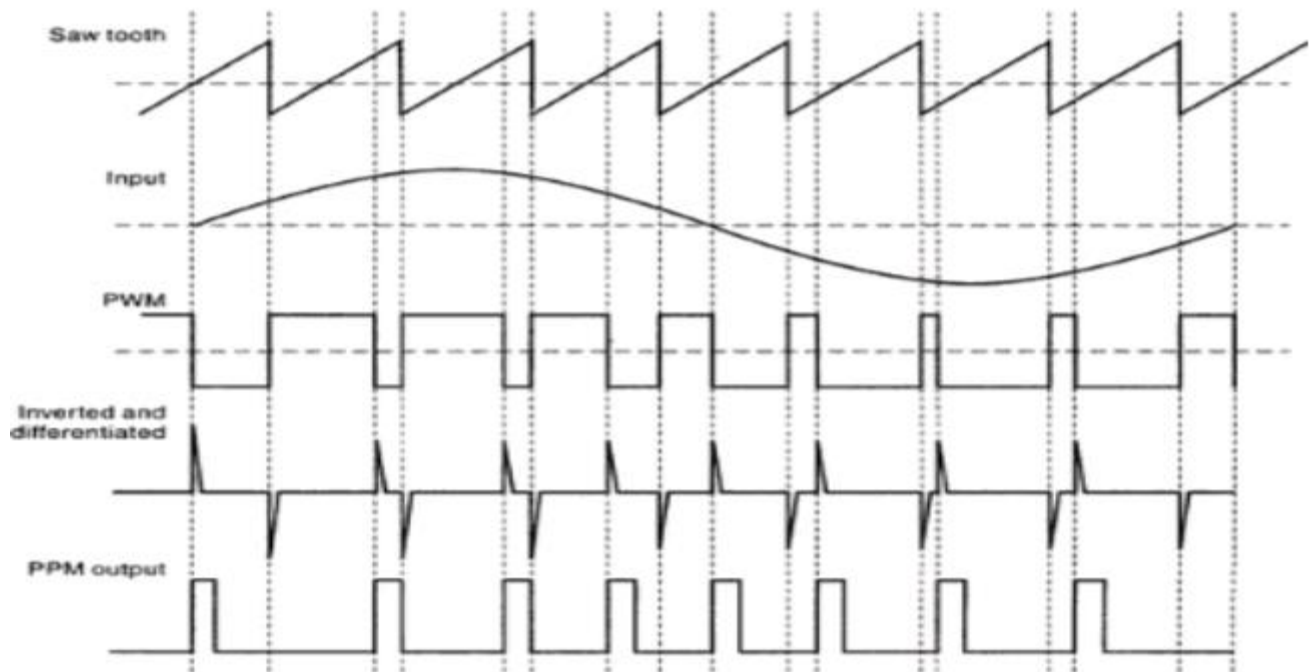

Fig6. PWM and PPM signal generation
- The comparator will compare the two signals together to generate the PWM signal at its output as shown in the third waveform of Fig6.